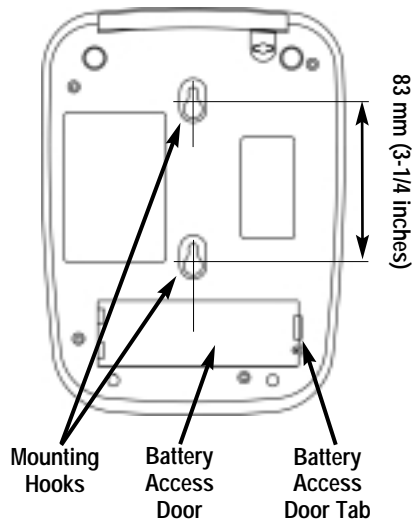

Figure 9 – Phonecell SX4D mounting hooks and battery access door located on the back of the unit.
The Phonecell SX4D can accommodate six (6) standard AAA alkaline batteries (not supplied) for operation when AC power is not available. To install batteries, set the unit upside down, remove the screw to the battery access door, press the battery access door tab and remove the battery access door. Install the batteries and reinstall the battery access door - **see Figure 9.**
- 3) To mount the Phonecell SX4D on a wall, mark two hole locations 83 mm (3-1/4 inches) apart. Use the tick marks on the edge of this page as a template. These hole locations match the mounting hooks on the back of the unit - **see Figure 9.**